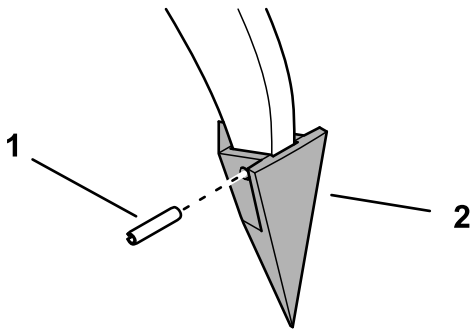

Figure 9
1. Remove the roll pin securing the tip to the end of the tooth and remove the tip (Figure 9).
2. Install a new tip onto the end of the tooth and secure it with the roll pin (Figure 9).